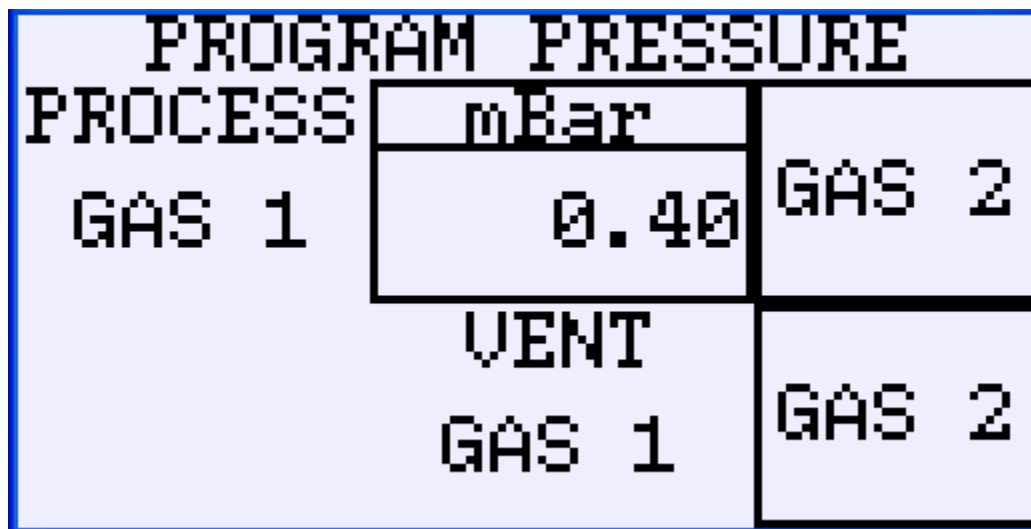

Figure 7
1. Press the "**Prog**" function button. This takes you to the **PROGRAM PRESSURE** screen (Figure 7). This is the first of four auto run program screens.
29. Press the **Auto** function button to return to the **AUTO RUN** screen to run your new program or press the **Next** function, to return to the **PROGRAM PRESSURE** screen (Figure 7). This is the first of four auto run program screens.